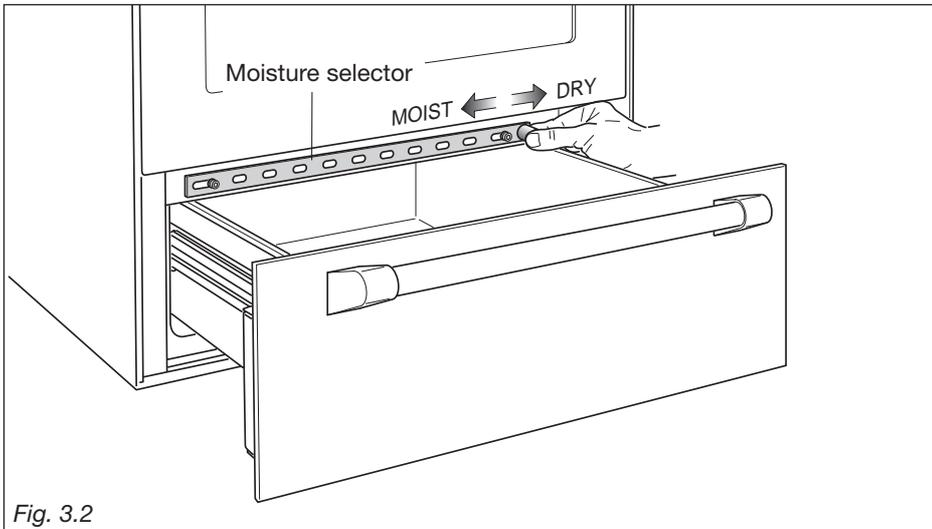

Fig. 3.2
- Slide the Moisture selector to a Moist or Dry position. Intermediate positions can be setted (fig. 3.2) (see the “MOISTURE SELECTOR” chapter)
### MOISTURE SELECTOR (fig. 3.2)